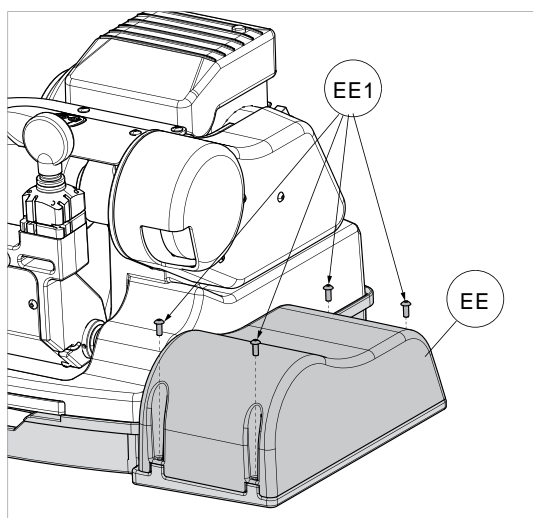

Fig. 63
- 1) Loosen the 4 screws (EE1) and remove cover (EE) (Fig. 63).